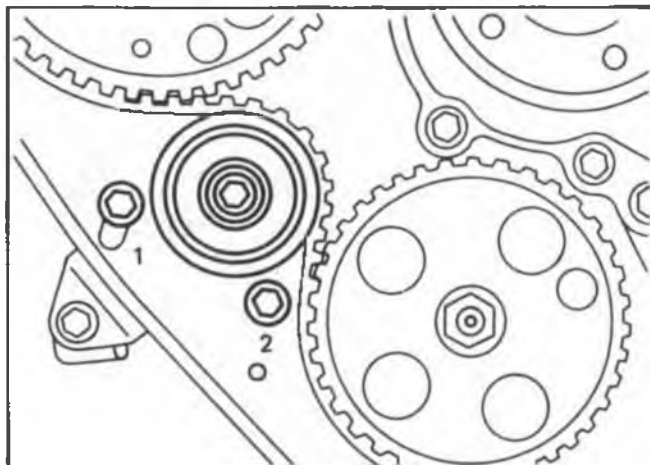

Fig. 4-31 Tension Pulley Bolts
10. Semi-tighten bolts in numerical sequence to prevent movement of tension pulley (Fig. 4-31).